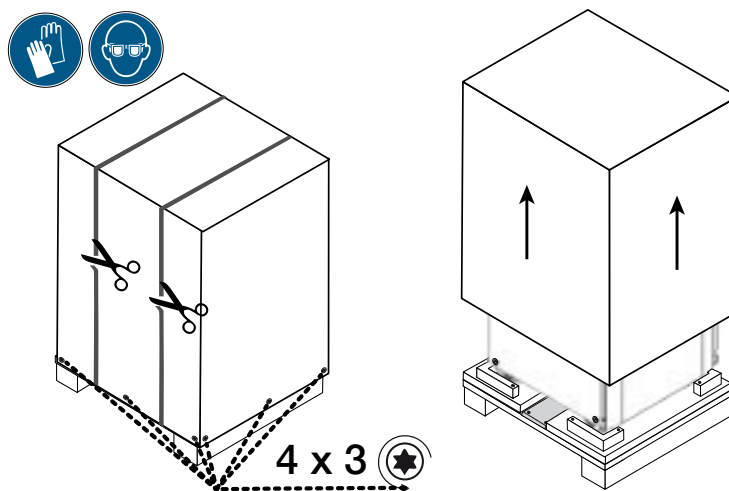

Figure 1-4: Removing the Outer Strapping and Packaging
2. Using a pair of scissors, cut and remove the outer strapping around the shipping package, as shown on the left side in Figure 1-4.
3. Using a screwdriver, remove the woodscrews (four times three pieces, as indicated in Figure 1-4 from the bottom of the cardboard box or wooden crate outer packaging).
4. Lift off the cardboard box or wooden crate, as shown on the right side in Figure 1-4.